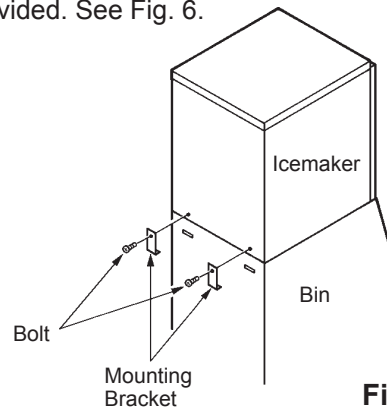

Fig. 6
- 6) Secure the icemaker to the storage bin, by using the two mounting brackets and two bolts provided. See Fig. 6.